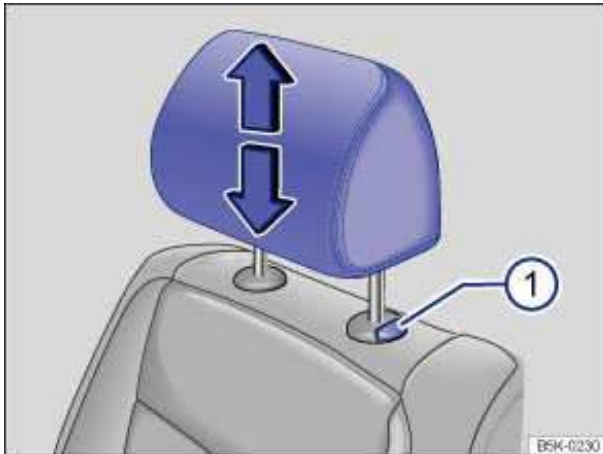

Fig. 41 Adjusting the head restraints.
- Push the head restraint up in the direction of the arrow or down when the button ⇒ fig. 41 \(1\) is pressed ⇒ ⚠.